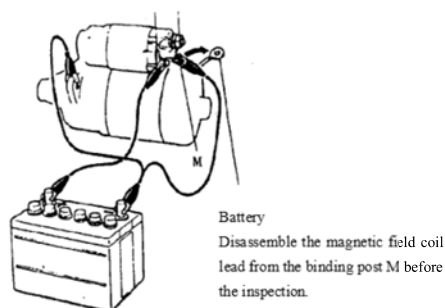

Figure 6.2-8
1. Traction test: Connect the battery and electromagnetic switch as shown in Figure 6.2-8. At this time, the insertion stick type core should be pushed outward. Replace the electromagnetic switch if the core remains unmoved.